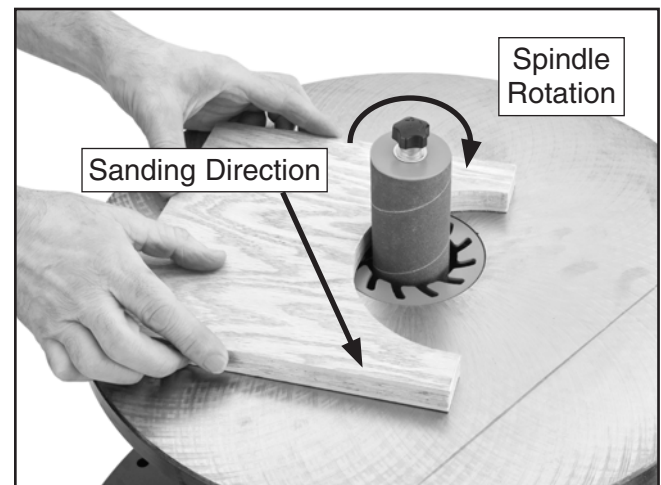

Figure 12. Sanding workpiece.
3. Using both hands, guide the workpiece against the sanding sleeve in a right-to-left manner, as shown in **Figure 12**. **DO NOT** force the workpiece against the sanding sleeve.